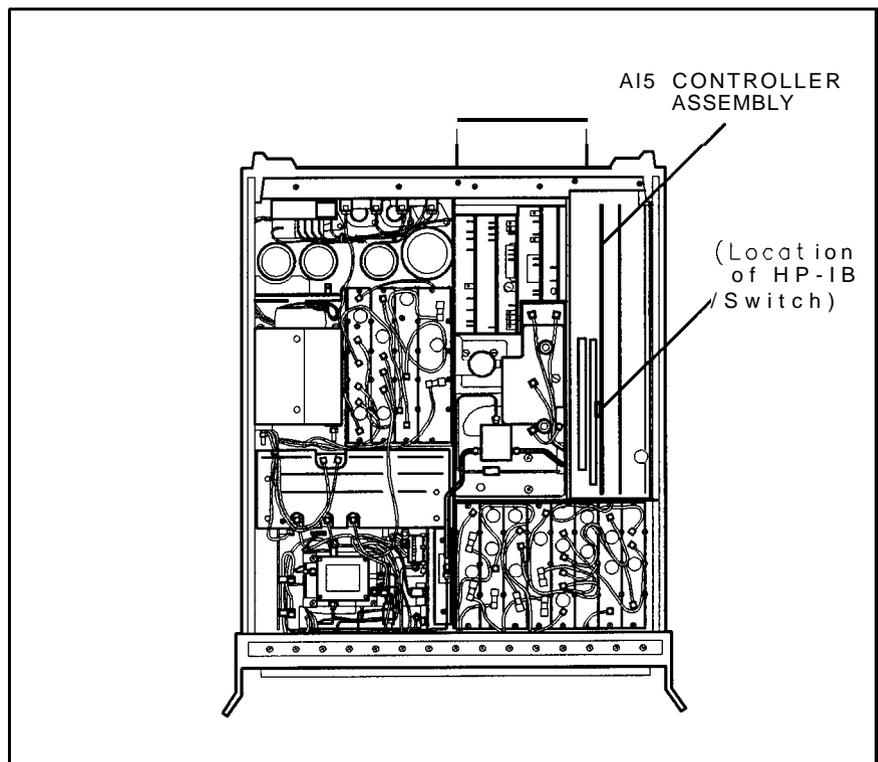
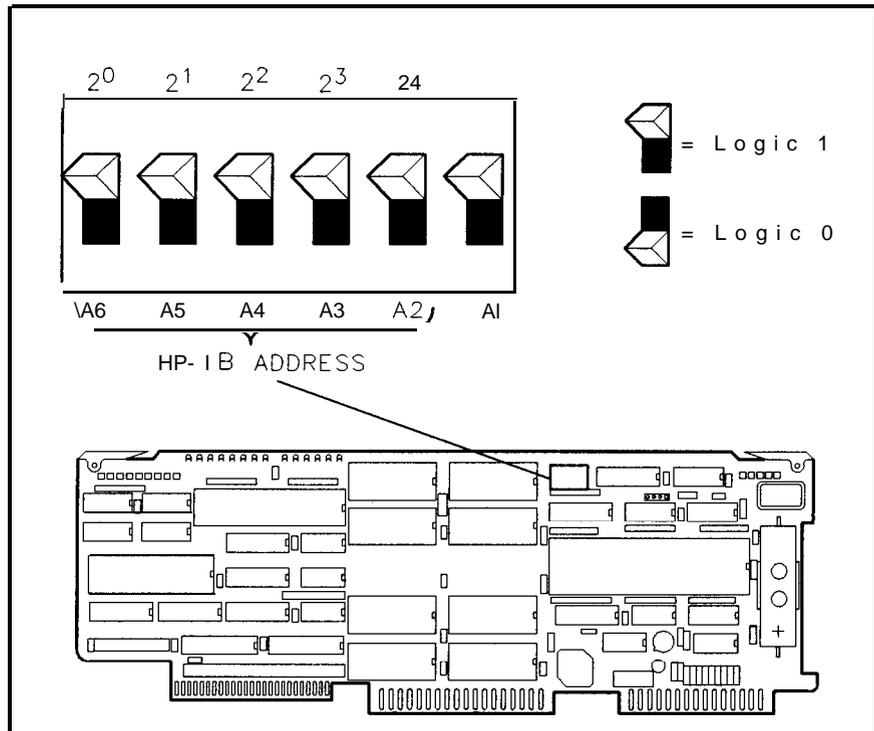

Figure 2-16. Location of A15 Controller Assembly
Figure 2-17. Address Switch (Shown In Factory Preset Position)
4. Remove the cover from the A15 controller assembly. See Figure 2-16 to locate the assembly.
5. Locate the address switch **A15SW1** as shown in Figure 2-16 and Figure 2-17. Change the switch's setting according to the information given below.
The switch comprises six segments, A1 through A6. A1 must always be set to logic 1. Each of the remaining five segments, A2 through A6, corresponds to one of the digits of a 5-digit binary equivalent of the address. See Figure 2-17. The switch is preset at the factory to binary 11111 (decimal 31). This is a special code which commands the instrument to use the last input address (stored in memory) either from the front panel or from HP-IB.